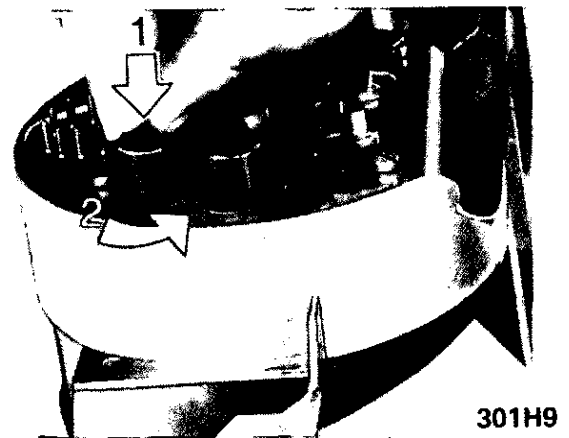

Figure 1H-9 Removing Instrument Cluster Bulbs
2. **Replace** bulbs from back of cluster. See Figure 1H-9.